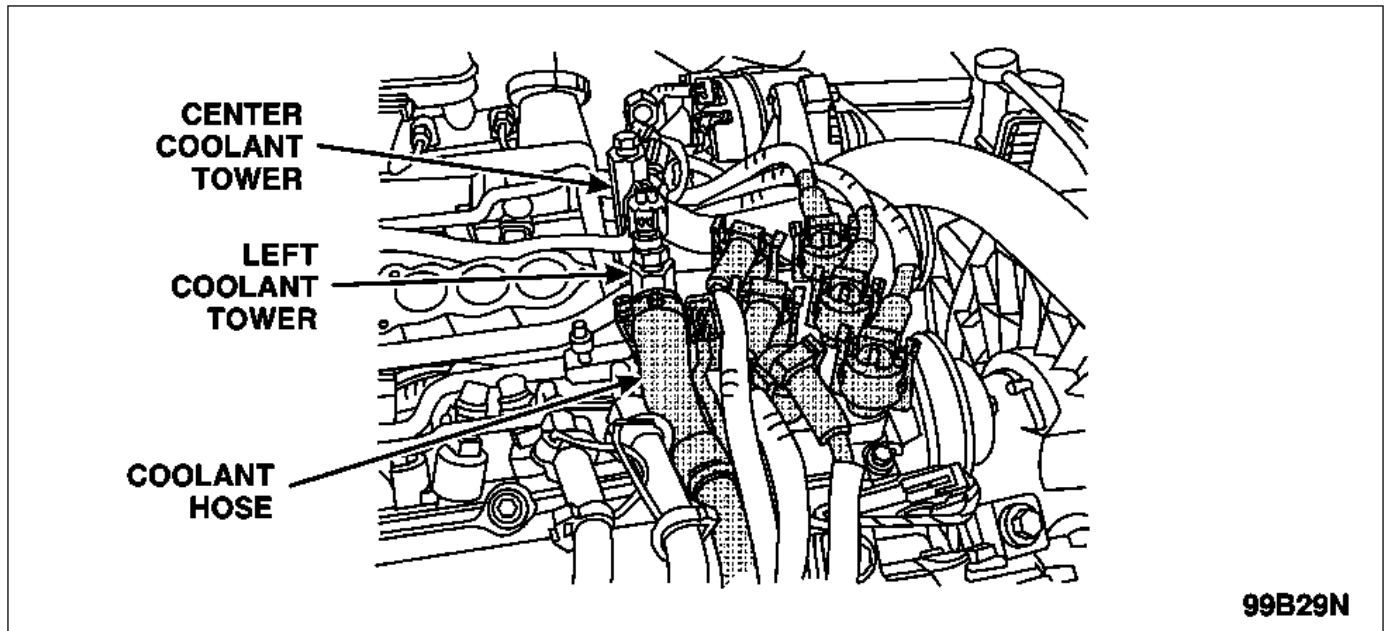

FIGURE 14
23. Disconnect the coolant hose from the left coolant tower. See Figure 14.